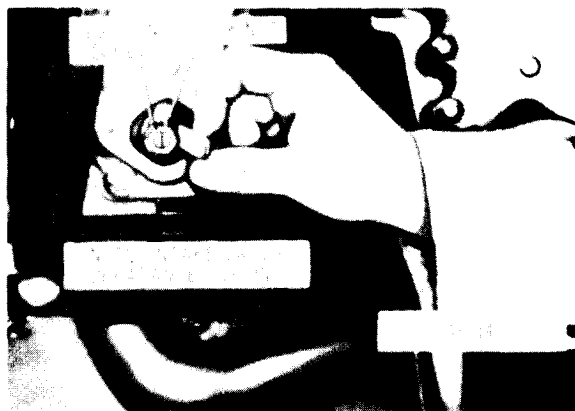

Figure 2-154. Setting intake valve clearance.
(5) Loosen intake valve adjusting screw lock nut (fig. 2-154). Turn valve adjusting screw until clearance between screw pad and valve stem is
(4) Reset cylinder No. 6R (and/or 6L) intake valve clearance to 0.010 inch clearance (fig. 2-154).